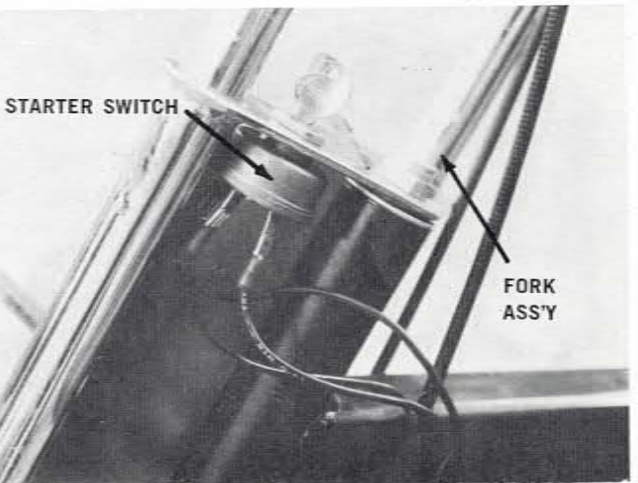

Figure 29
- Secure wire with brake cables at cable clamp on frame (see Fig. 29).